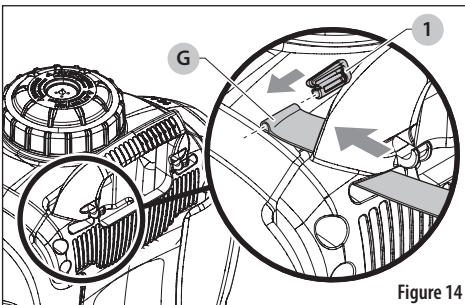

Figure 14
1. For each side of the harness (G), remove the small plastic clips (1) from the two shoulder strap loops and thread each loop through the slots at the top of the sprayer handle. See Figure 14.
2. Replace the clips (1) through the loops and pull the strap securing the two harness (G) straps in place.